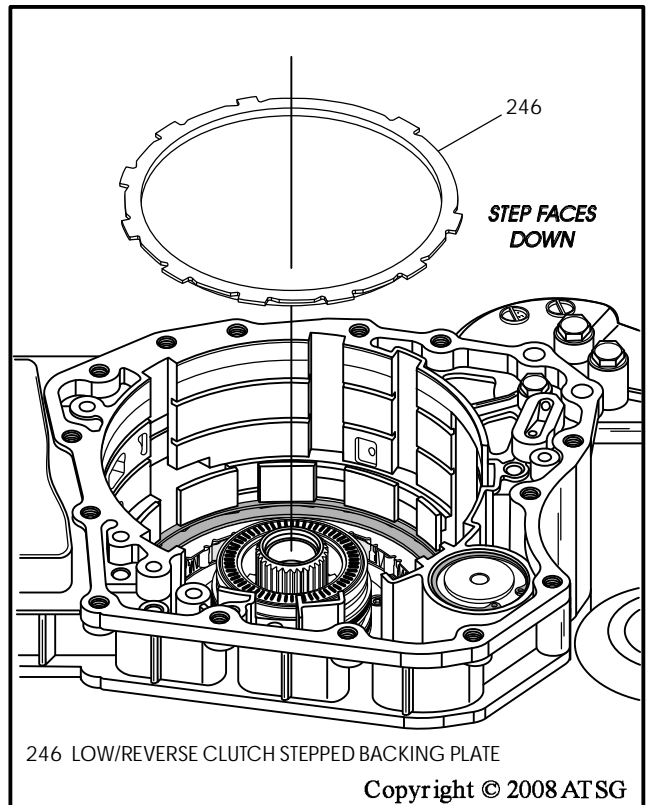

Figure 188
4. Install the low/reverse clutch stepped backing plate, as shown in Figure 188.
**Note: Flat side faces up, step faces down, as shown in Figure 188.**